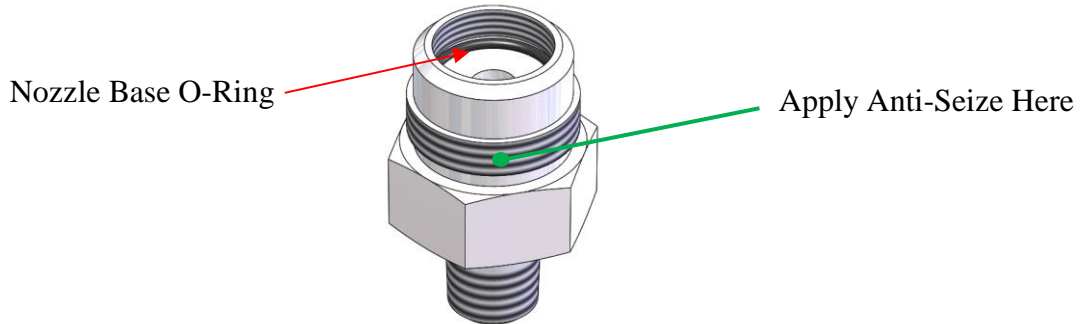

Figure 34: Inlet Base
13. Install the nozzle base o-ring into the lower corner of the nozzle pocket. See Figure 34.
25. Put a small amount of anti-seize on the threads of the inlet base that get screwed into body. See Figure 34.
15. Install the nozzle base o-ring into the lower corner of the nozzle pocket. See Figure 34.